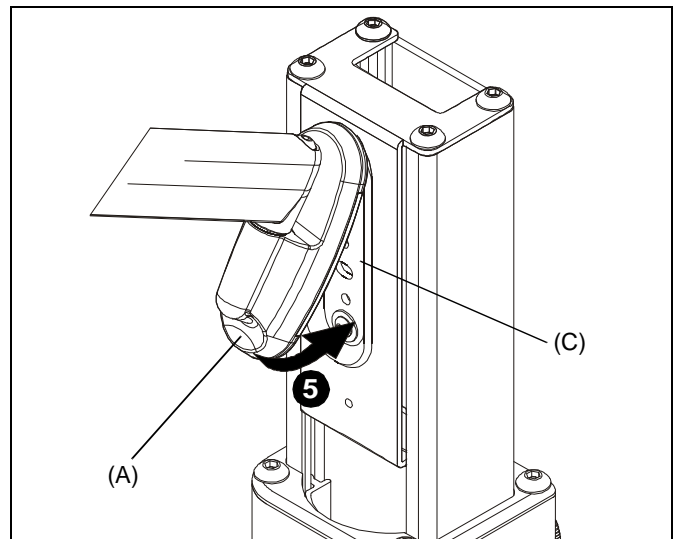

Figure 4
5. Swing height-adjust assembly (A) down flush against assembly bracket (C). (See Figure 4)